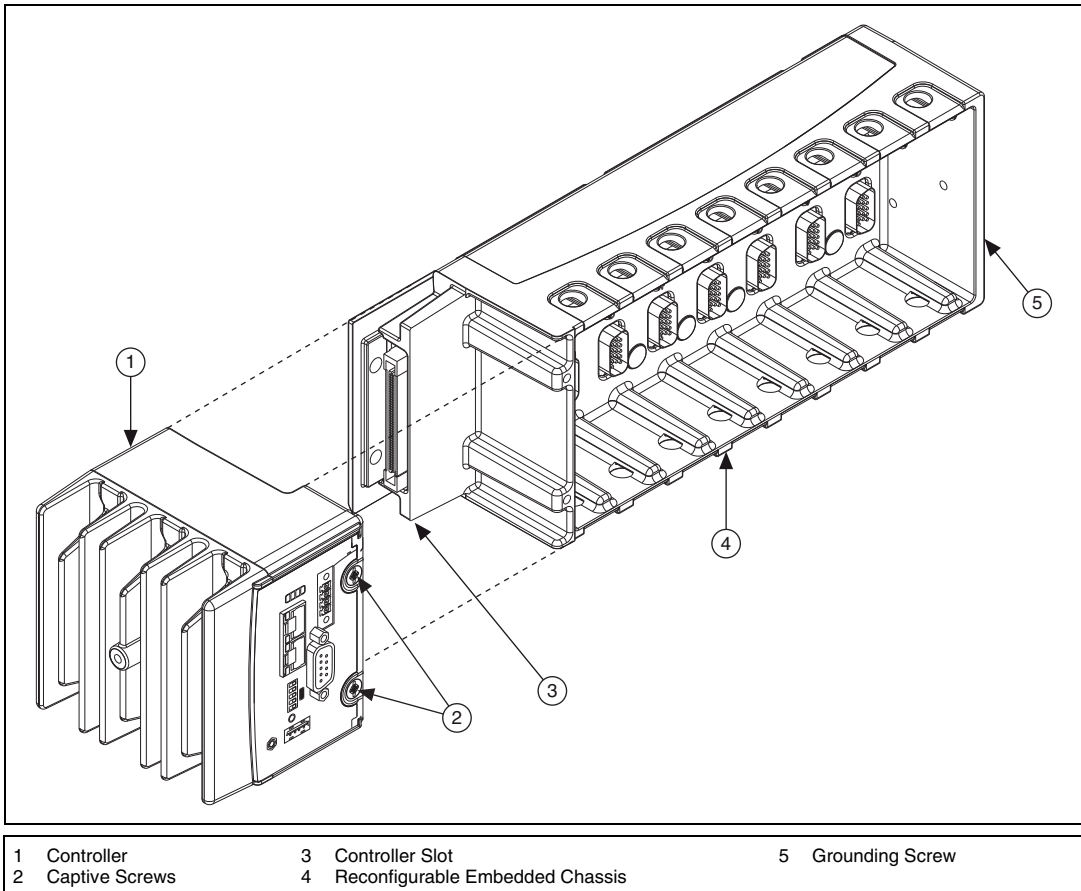

Figure 10. Installing the Controller on the Chassis (Eight-Slot Chassis Shown)
- b. Align the controller with the chassis as shown in Figure 10.